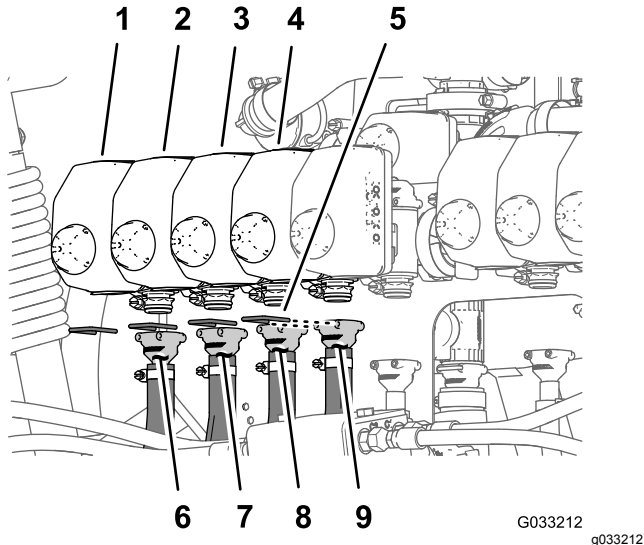
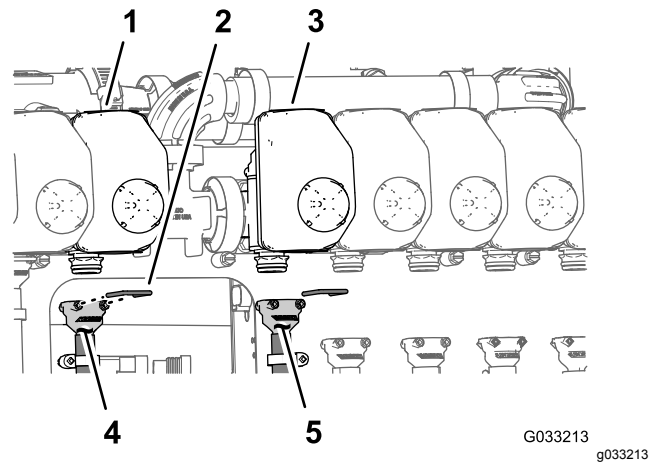

Figure 138
Figure 139
Note: Refer to Figure 138 in *Assembling the Hoses to Nozzle Valves 1 through 4* (page 64), Figure 139 in *Assembling the Hoses to Nozzle Valves 5 and 6* (page 64), and Figure 140 in *Assembling the Hoses to Nozzle Valves 7 through 10* (page 65) for the nozzle-valve positions.
1. Assemble the straight barbed fitting of a supply hose 279 cm (110 inches) onto the coupler of nozzle valve 1 (Figure 138).
2. Secure the barbed fitting to the coupler with a retainer (Figure 138).
3. Assemble the straight barbed fitting of a supply hose 234 cm (92 inches) onto the coupler of nozzle valve 2 (Figure 138).
4. Secure the barbed fitting to the coupler with a retainer (Figure 138).
5. Assemble the straight barbed fitting of a supply hose 188 cm (74 inches) onto the coupler of nozzle valve 3 (Figure 138).
6. Secure the barbed fitting to the coupler with a retainer (Figure 138).
7. Assemble the straight barbed fitting of a supply hose 188 cm (74 inches) onto the coupler of nozzle valve 4 (Figure 138).
8. Secure the barbed fitting to the coupler with a retainer (Figure 138).
1. Assemble the straight barbed fitting of a supply hose 81 cm (32 inches) onto the coupler of nozzle valve 5 (Figure 139).
2. Secure the barbed fitting to the coupler with a retainer (Figure 139).
3. Assemble the straight barbed fitting of a supply hose 81 cm (32 inches) onto the coupler of nozzle valve 6 (Figure 139).
4. Secure the barbed fitting to the coupler with a retainer (Figure 139).